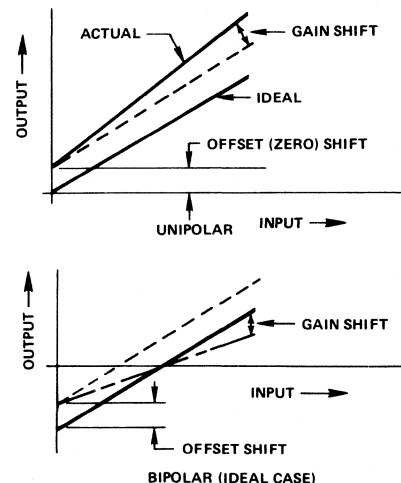

Figure 6. Unipolar and Bipolar Drifts
Temperature error analysis in the unipolar mode is straightforward: there is an offset drift and a gain drift. The offset drift of  $3\text{ppm}/^\circ\text{C}$  max (which comes from leakage currents and drift in the output amplifier (OA)) causes a linear shift in the transfer curve as shown in Figure 6. The gain drift causes a change in the slope of the curve and results from reference drift, DAC drift, and drift in  $R_{\text{GAIN}}$  relative to the DAC resistors for a total of  $30\text{ppm}/^\circ\text{C}$  max. Total absolute error due to all of these effects is guaranteed to be less than  $\pm 0.15\%$  of full scale from 0 to  $+70^\circ\text{C}$ .
Note that if the DAC and application resistors track perfectly, the bipolar offset drift will be zero even if the reference drifts. A change in the reference voltage, which causes a shift in the bipolar offset, will also cause an equivalent change in  $I_{\text{REF}}$  and thus  $I_{\text{DAC}}$ , so that  $I_{\text{DAC}}$  will always be exactly balanced by  $I_{\text{BP}}$  with the MSB turned on. This effect is shown in Figure 6. The net effect of the reference drift then is simply to cause a rotation in the transfer around bipolar zero. However, consideration of second order effects (which are often overlooked) reveals the errors in the bipolar mode. The unipolar offset drifts discussed before will have the same effect on the bipolar offset. A mismatch of  $R_{\text{BP}}$  to the DAC resistors is usually the largest component of bipolar drift, but in the AD DAC80 this error is held to  $10\text{ppm}/^\circ\text{C}$  max. Gain drift in the DAC also contributes to bipolar offset drift, as well as full scale drift, but again is held to  $7\text{ppm}/^\circ\text{C}$  max. The total of all these errors is held to  $\pm 0.1\%$  of full scale from 0 to  $+70^\circ\text{C}$ . Note that, in the bipolar ranges, full scale is defined as the total range from  $-V_{\text{FS}}$  to  $+V_{\text{FS}}$ .